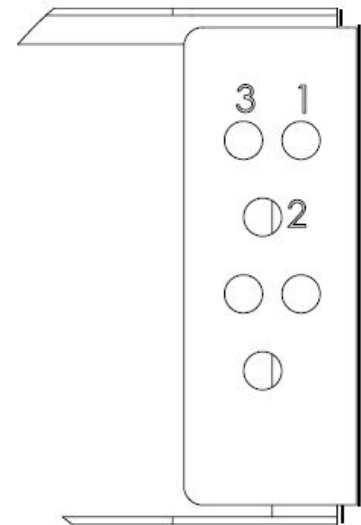

Figure 4
2. Insert one grommet into each of the four holes on the inside of the bracket (see **Figure 2** and its callout and **Figure 4**).
- NOTE: The brackets are designed to work with other manufacturer's enclosures. Use Figure 4 as a reference for which holes to use with which manufacturer. (#1 = Greyfox or Pass and Seymour, #2 = Open House or Leviton and #3 = On-Q.**